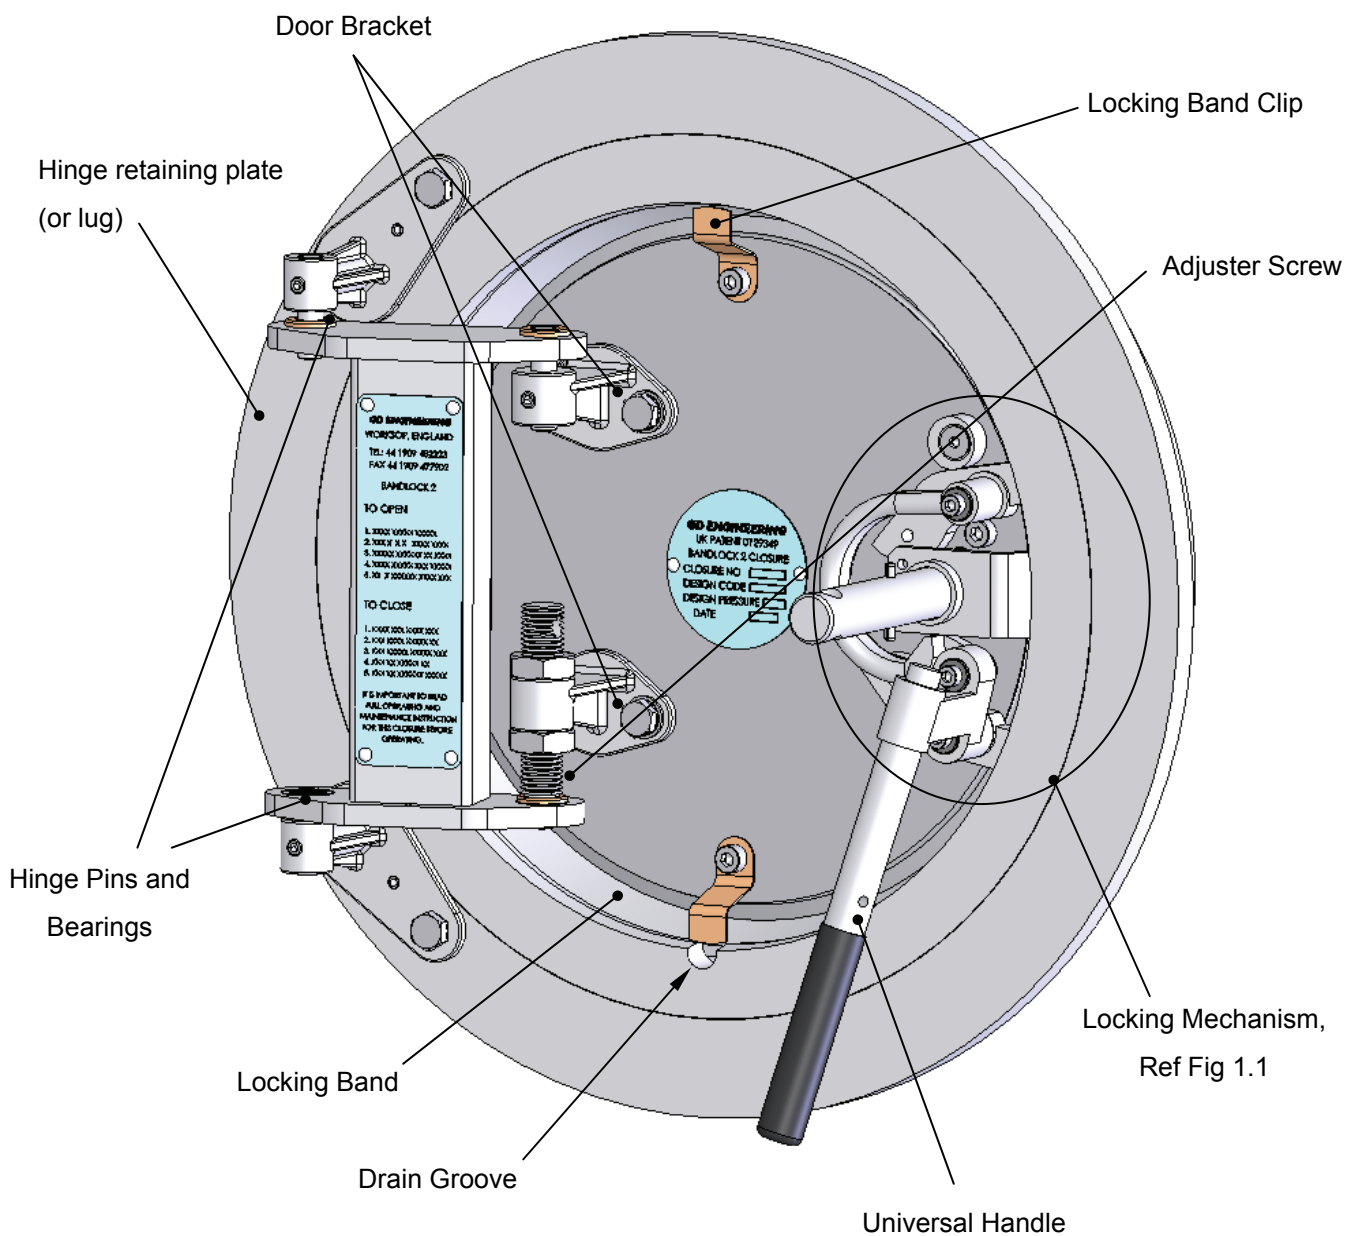

Fig 1.0 – Bandlock™ 2 Closure Components.
The GD Engineering horizontal Bandlock™2 closure must be installed truly horizontal, ensuring that the drain groove (Fig.1.0) is located at the lowest position for right/left hand hinge orientation. Vessels which are required for inclined or declined installations (nominally 1° to 10° from the horizontal) should be accommodated with a mitred closure weld preparation. This leaves the closure horizontal whilst accounting for the nominal angle of the vessel.
- 4 Adjust gaps using adjuster screw (Fig 1.0) until gap at top and bottom is equal.